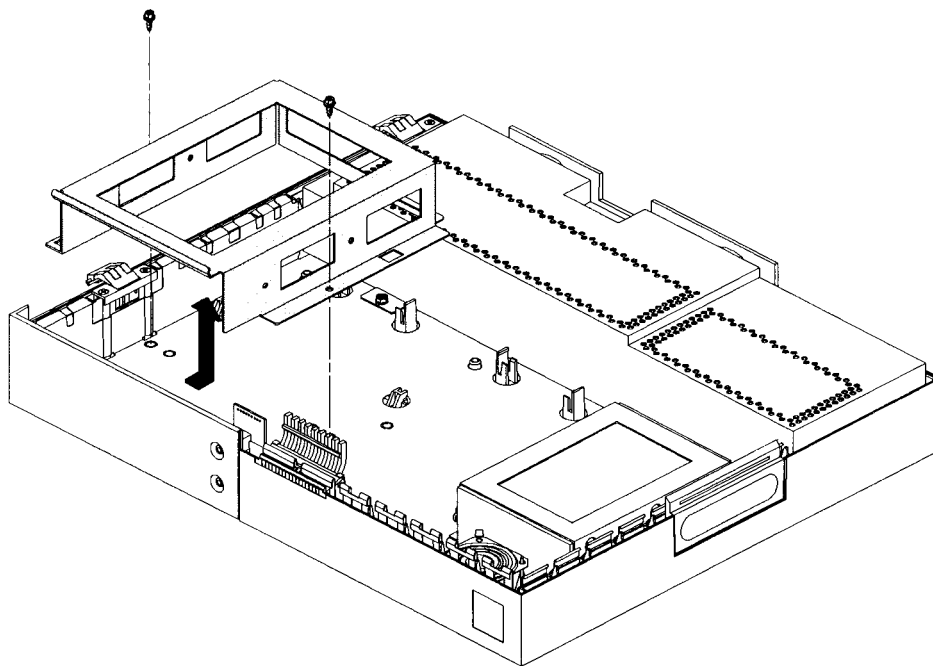

Figure B-17. Removing the Empty Bracket
4. Remove the empty bracket from the system chassis by removing the two screws, sliding the bracket back, and lifting it up, as shown in Figure B-17.